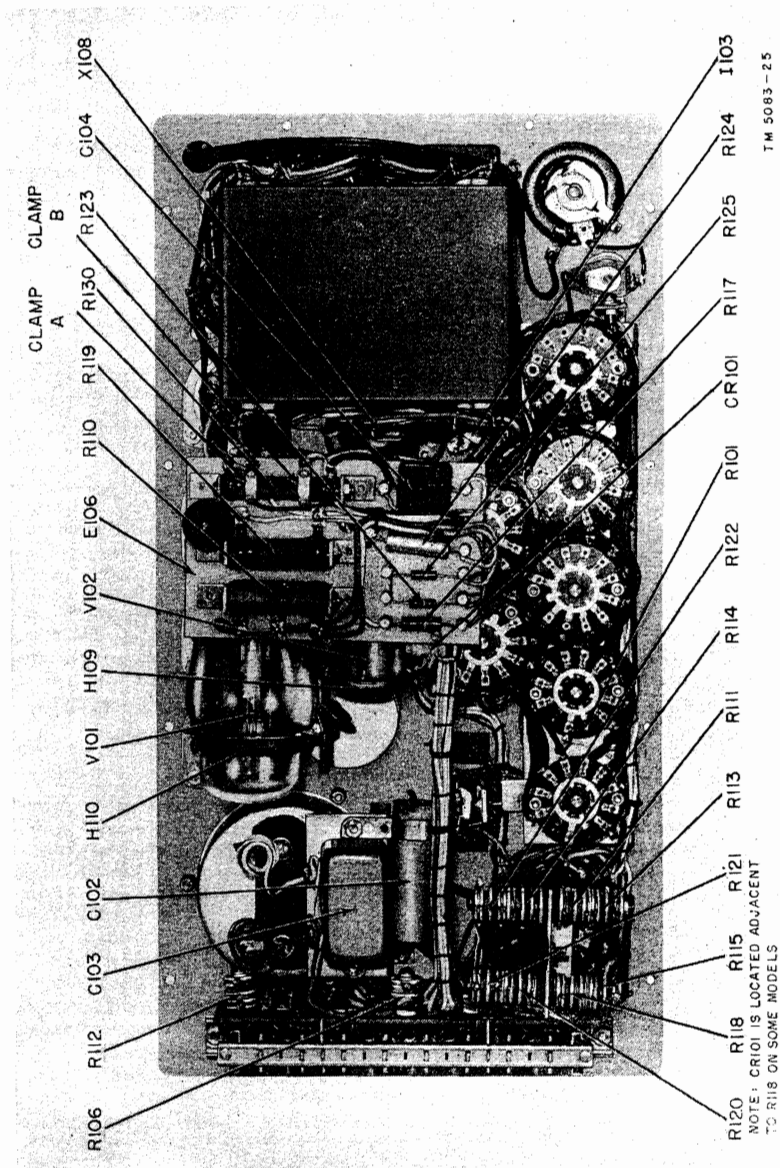

Figure 26. Electron Tube Test Set TV-7/U, direct rear view.
a. If tapped resistor R130 (fig. 26) is replaced, re-establish proper voltage distribution as follows:
- (1) Set all controls as outlined in paragraph 58, and turn the equipment on.
- (2) Connect the positive (red) lead of the d-c voltmeter to pin 6 and the negative (black) lead to pin 5 of the OCTAL socket XIII.
- (3) Set the BIAS control to 100.
- (4) Loosen and adjust clamp A (fig. 26) of R130 until the voltmeter reads 40 volts plus or minus 1 percent on the 50-volt range.
- (5) Set the BIAS control to zero (0).
- (6) Connect the positive voltmeter lead to pin 4 and the negative lead to pin 6 of the OCTAL socket.